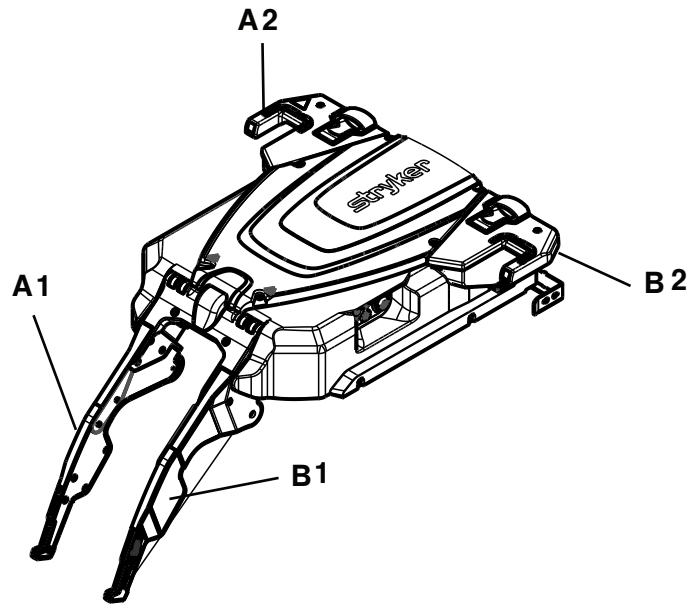

Figure 12 – Trolley hand positions
- c. Installer 1, position hands at A1 and A2 (Figure 12).
- d. Installer 2, position hands at B1 and B2 (Figure 12).